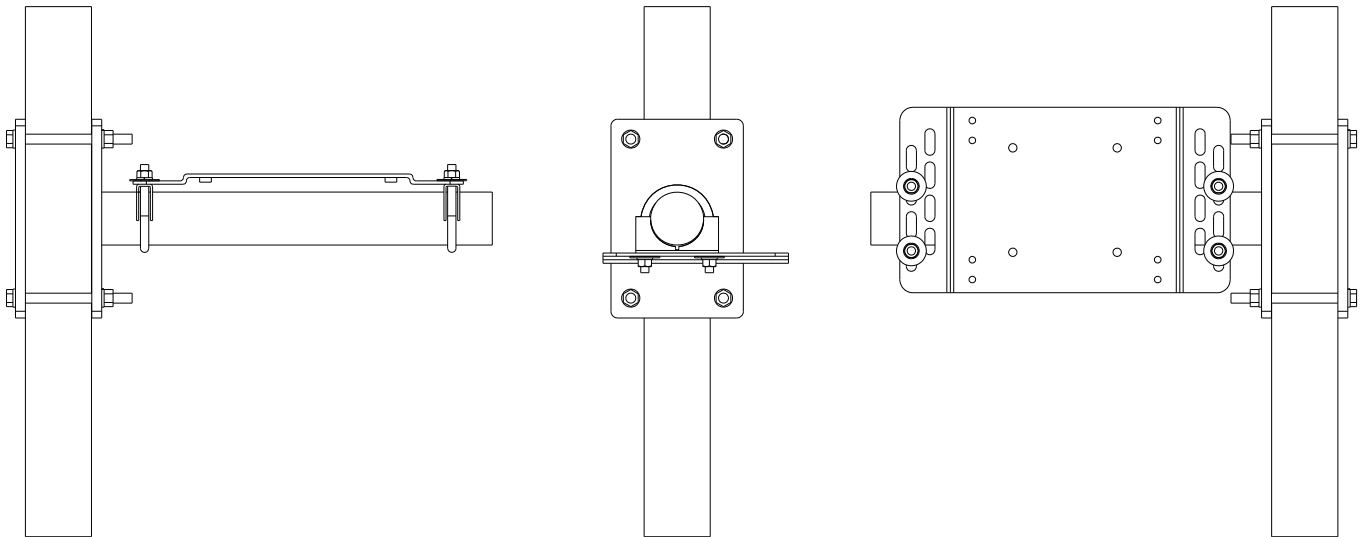

Figure 1.
**I. Preparation** This articulating mount can be installed in a wide variety of orientations (See Figure 1). Select the best orientation for your specific application.